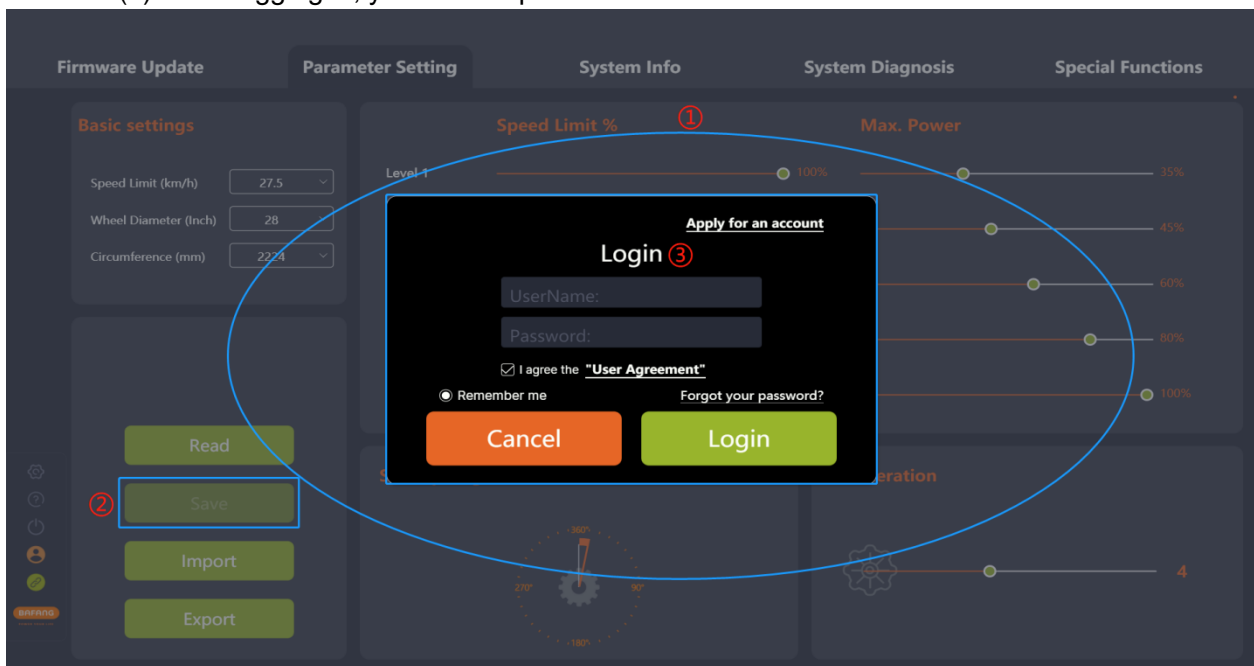

Fig. 5-5 Login
- (1) After reading successfully, adjust the parameters on the right side by pulling the slider.
- (2) After adjusting, click the “Save” icon to save the new parameters to the controller.
- (3) If you are not logged in, the “Login” interface will pop up, prompting you to log in (Fig.5-5).